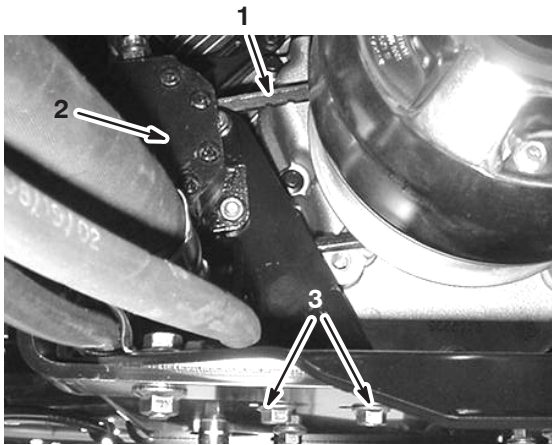

Figure 51
2. Loosen the steering pump mounting bolts (Fig. 51).